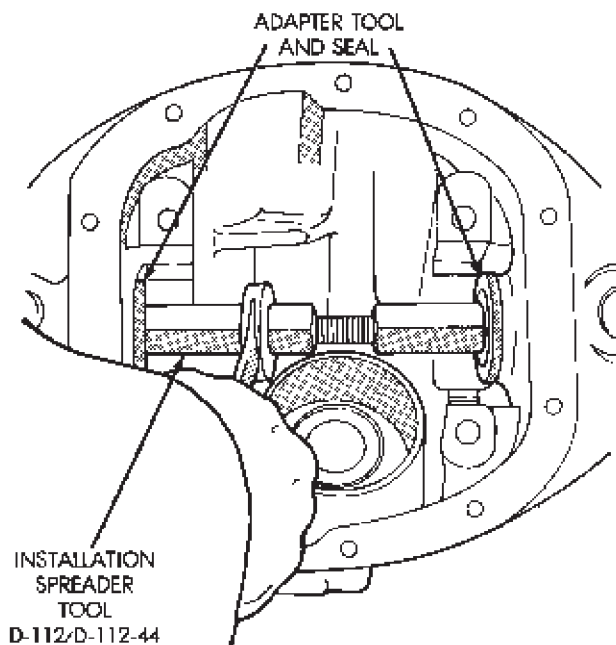

Fig. 27 Axle Shaft Oil Seal Installation
(1) Remove the inner axle shaft seals with a pry bay.
(2) Install oil seals with Adapter D-112-4, D-112-5 and Turnbuckle D-112 (Fig. 27). Tighten tool until disc bottoms in housing. Be sure the seals are not cocked.